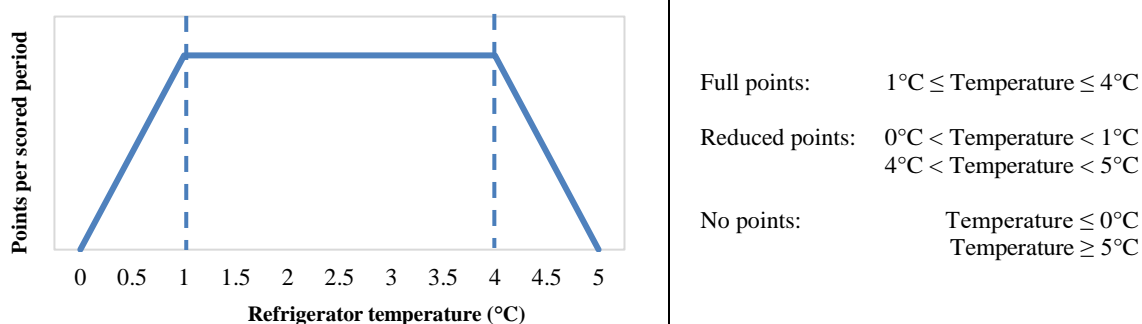

Figure 5 Scoring function for the Refrigerator Subcontest
- Reduced points are earned if the time-averaged interior refrigerator temperature is between 0°C and 1°C or between 4°C and 5°C. Reduced point values are scaled linearly, as shown in Figure 5.